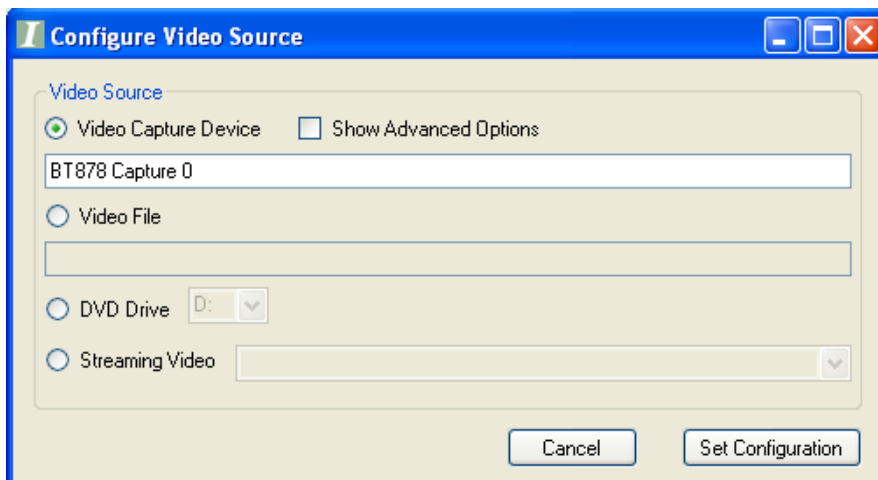

Figure 8.2 (a)
- i. After selecting this option, the system will automatically fill in the capture device information. Just select the port to be used by replacing the 0 with 0, 1, 2 or 3. (Figure 8.2 (a))